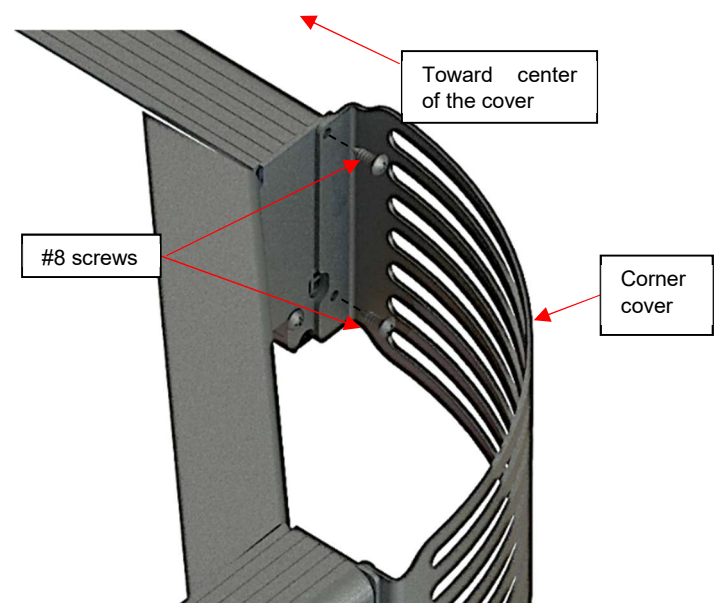

Figure 76
32) Orient the corner cover piece and screw it in completely with the last two screws on the side toward the center of the cover. Use the Robertson sheet metal #8 x 1/2" screws. (Figure 76)